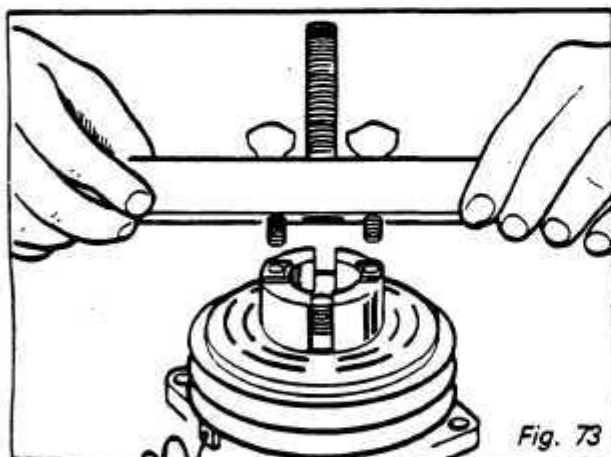

Fig. 73
- Align thumb head bolts to pulley jaws and finger-tighten. Fig. 73